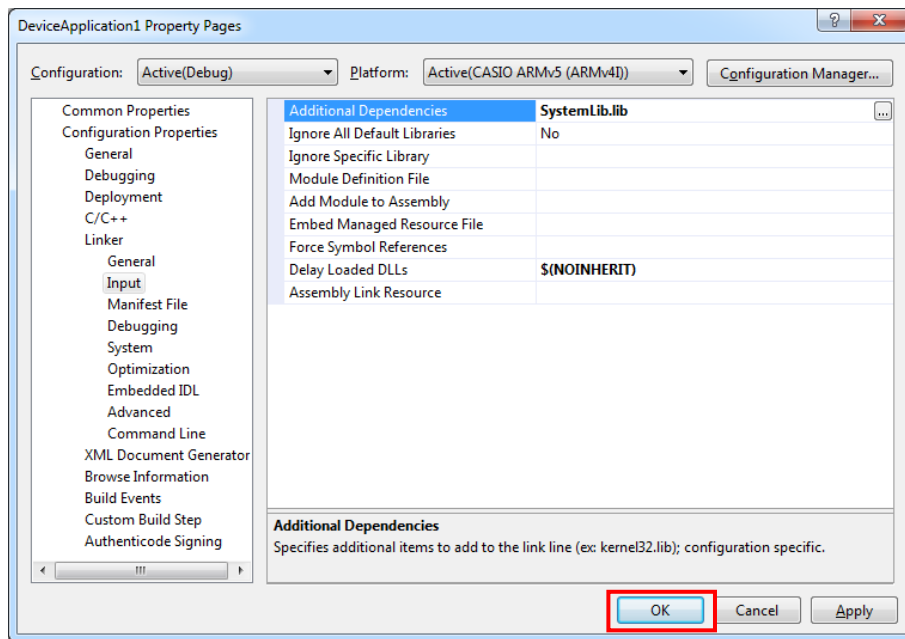

Figure 7.21
11. Navigate to **Configuration Properties** → **Linker** → **Input** → **Additional Dependencies** and then append **SystemLib.lib** (see red circle in Figure 7.21).